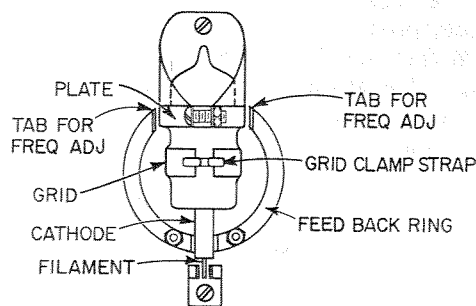

Figure 6. Installation Detail, Type 6481 Oscillator Tube.
C207B, held close to the plate and connected to the cathode by means of a horseshoe-shaped supporting member. See Figure 6 for mechanical details.
**4.3.2 TUBE REPLACEMENT IN 250-940-MC UNIT.** The procedure for replacing the oscillator tube in the Type 1021-P2 UHF Oscillator Unit (250-940 Mc) is as follows (see Figure 6):